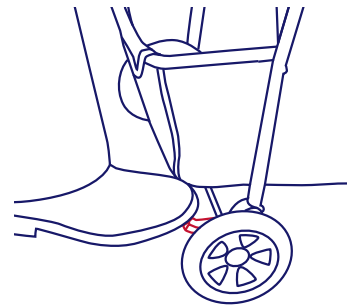

Figure 5.
- To engage brakes, apply light downward pressure to the brake lever located on each rear wheel. The stroller may require slight forward or rearward movement in order to line up the teeth on the brake with the each wheel brake cluster. See figure 5. Check that the stroller will not move and that the brakes are properly applied. To release, gently lift up on the brake lever.